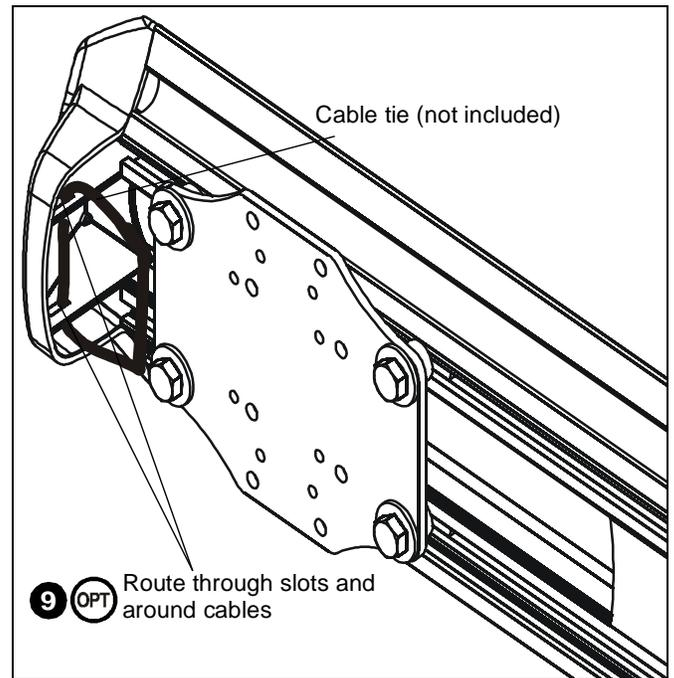

Figure 30
9. **(Optional)** Cables can be tied to inside of projector's front cover using cable ties (not included). Route cables near front cover and wrap cable tie through slots on front cover and around cables. (See Figure 30)